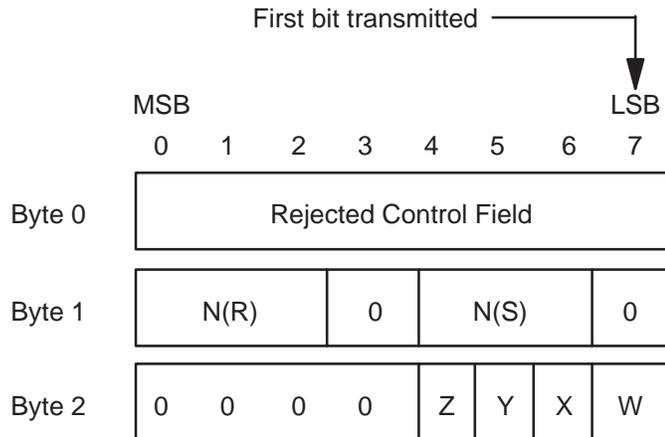

Figure B-5 FRMR Information Field Format
The FRMR response is returned by the adapter when it receives a frame with an invalid command, a frame of excessive length, or when the N(R) does not match. This response includes a three-byte information field in the format shown in Figure B-5, with Byte 0 transmitted first.